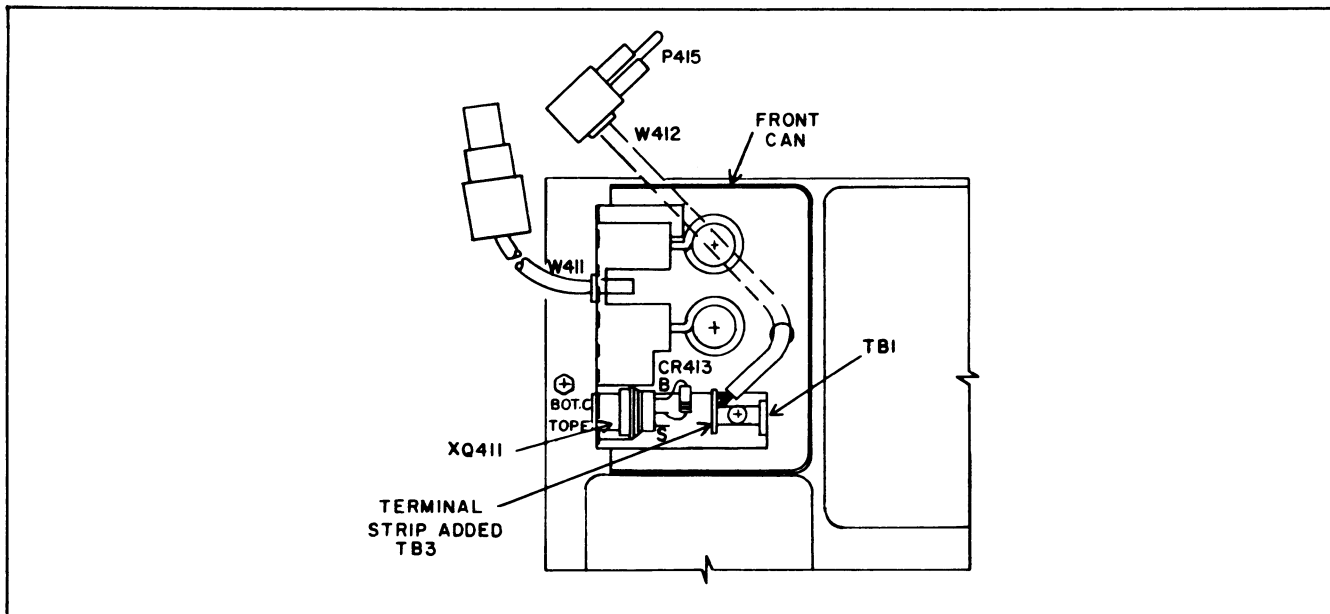
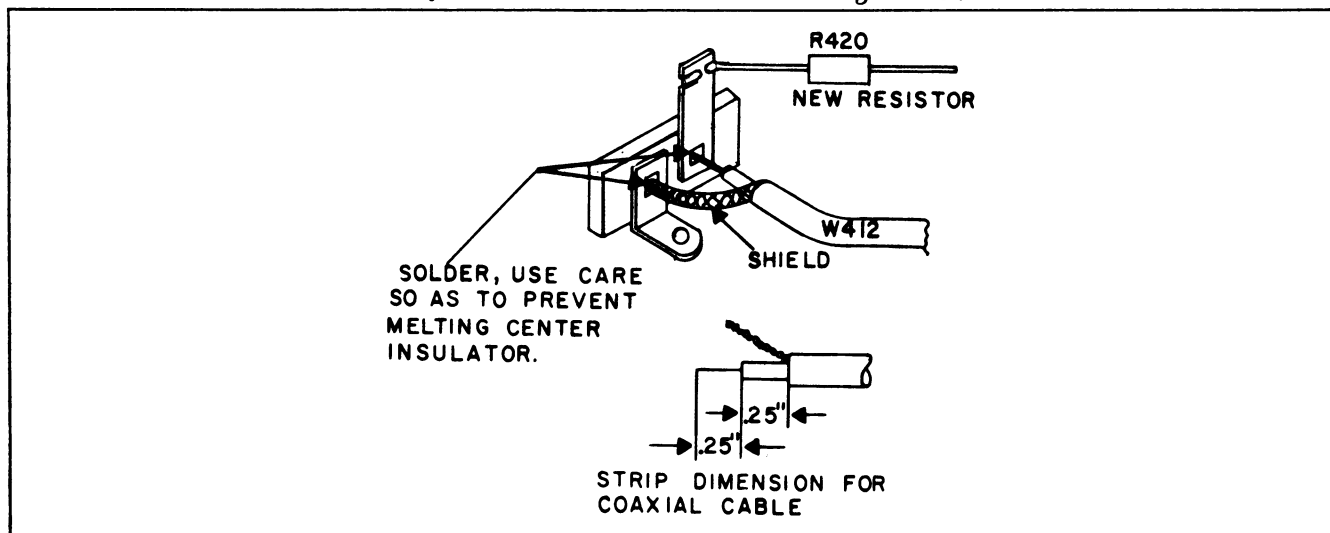

Figure 1 - RF Assembly (Partial View)
Figure 2 - Connections to TB3
RF Assembly (partial view)Figure 1
Connections to TB3Figure 2
- a. Remove the RF Assembly 4EF16A10 from the front frame by removing the four (4) screws holding this assembly and unplugging the wires connecting the RF Assembly to the remainder of the unit.
- c. Remove front can and transistor Q411 in area shown in Figure 1.
- f. Route cable supplied with Modification Kit A-4038585 through the can on the RF Assembly as shown in Figure 1. This cable can be identified by its male, right-angle connection on one
end. Connect to terminal strip as shown in Figure 2. Now install terminal strip with cable attached as located in Figure 1. Use the longer screw furnished with the kit to assemble. Be sure three (3) lockwashers are applied -- one between each terminal strip foot and the nut. Connect the resistor furnished as part of this kit between the new terminal strip and XQ411-E and solder. (See Figure 2.)
Install diode CR413 between XQ411-E and XQ411-B as shown in Figure 1 and 3; when soldering, be sure to heat sink the leads on body sides of the solder joint.